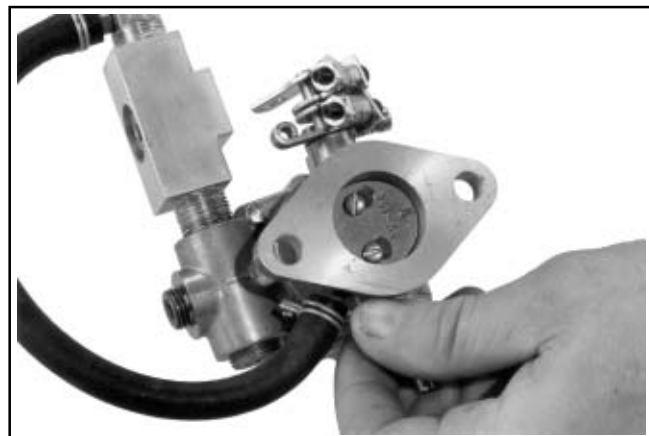

Figure 5A-9. Closing Throttle Plate.
3. Hold the throttle plate closed and rotate the clamp bracket until the end of the screw contacts the stop. Insert a 0.025 mm (0.001 in.) feeler gauge between the carburetor housing and the side of the clamp bracket to set the endplay, then tighten the mounting screw securely. See Figure 5A-10.